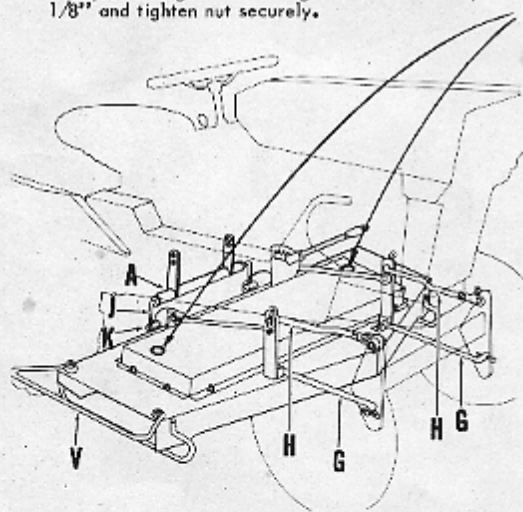

FIG. 5
Steps 7, 8, 9 and 10 refer to Fig. 5.
- Slip belt tightener rod guide (R) on long belt tightener link (S). Assemble long link (S) to belt tightener lever (L) and secure with cotter.
- Bolt belt tightener rod guide (R) to latch pin bracket on tractor and assemble front end of tightener link (T) to idler frame (U) at the same time and secure with retainer spring. See "Belt Adjustment", on Page 5, for adjustment. Turn up link adjustment sleeve to tighten belt.
- Refer to Fig. 5. Assemble guard (V) to R.H. side of mower housing with (3/8 x 1) carriage bolts (7/16 x 1 x 14 Ga.) washers and nuts provided.
- Remove four spring retainers from ends of upper and lower parallel links, and remove links. Refer to Fig. 5.
With tractor on a level surface and tires properly inflated, position R.H. and L.H. blades so that they are parallel to the tractor frame. Measure the height of the blade tip from the ground at the front and then rotate 1/2 turn and measure at the rear. The measurement at the rear should be 1/4 to 3/8 greater than that at the front. Lengthen or shorten upper parallel links, Figure 5, Illustration H, to obtain this difference. One turn will change the difference between blade tip height at front to rear approximately 5/32 inch. This tilt is required to avoid "double cutting" which requires additional power and impairs the functional performance of the machine.